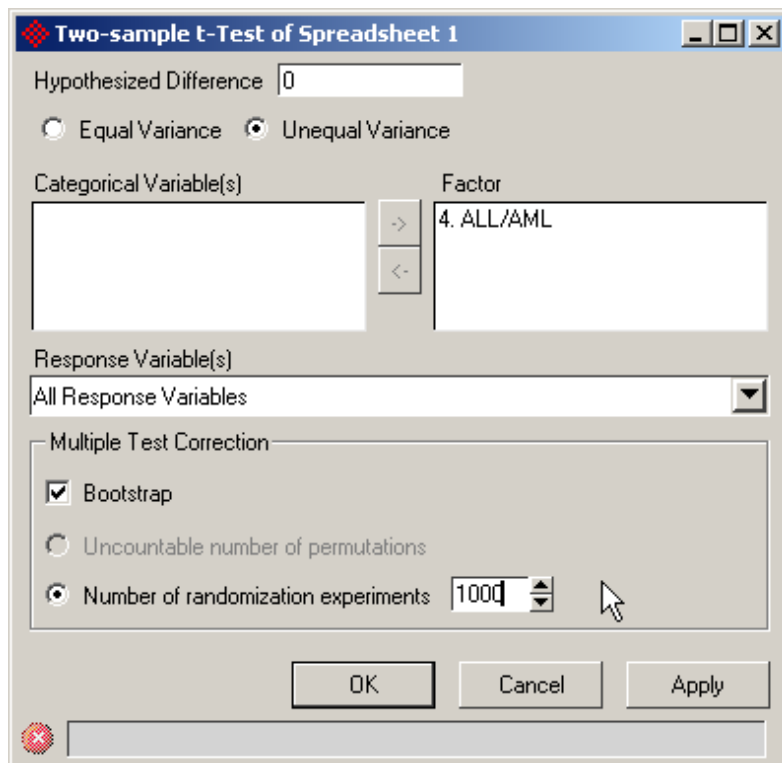

Figure 11. 82: Configuring the two-sample t-Test with Bootstrap correction
suppose you do a t-test on 7,129 variables and are interested in knowing if an unadjusted p -value of $5.48787e-6$ is significant when considering the multiple tests. This example corresponds to the 122nd ranked gene on an leukemia dataset. In this example, Partek will perform 1,000 iterations of the bootstrap (Figure 11. 82).
- Increments by one the column labeled "Trials w/ Hits" if *any* of the 7129 p -values is less than or equal to $4.69181e-6$ (Figure 11. 83)